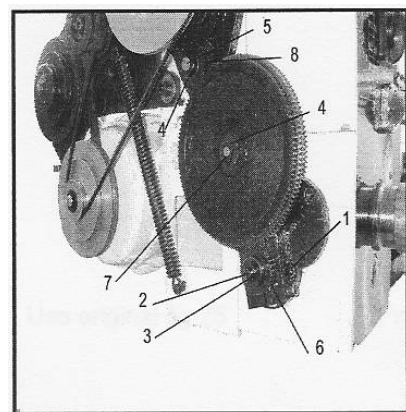

Fig 13
- Loosen screw (1, Fig 13)
- Unscrew bolt (2), remove washer (3) and gear (6)
- Loosen bolt (7) to allow movement.
- Loosen nut (5), remove washer (4) and gear (8)